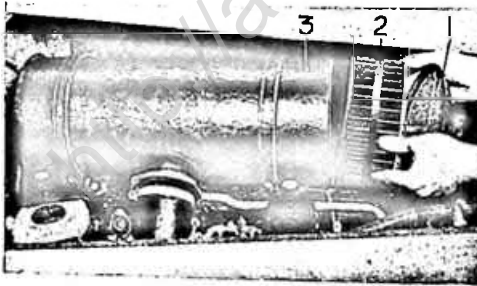

Fig. 14.—AIR CLEANER AND SILENCER.
Where the "steel wool element" type is fitted (Fig. 14) the element should be withdrawn, by removing the end cover (1), every 10,000 miles, unless the car is being operated under particularly dusty conditions, when the cleaning must be carried out at 5,000 mile inter-